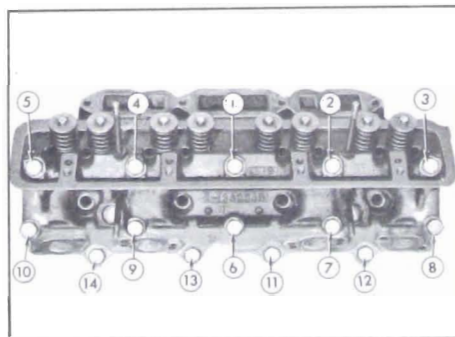

Figure 2-19—Cylinder Head Bolt Tightening Sequence
(3) After installation of cylinder head, tighten all bolts a little at a time about three times around in sequence shown in Figure 2-19, then finally tighten in same sequence to 65-75 ft. lbs. torque.